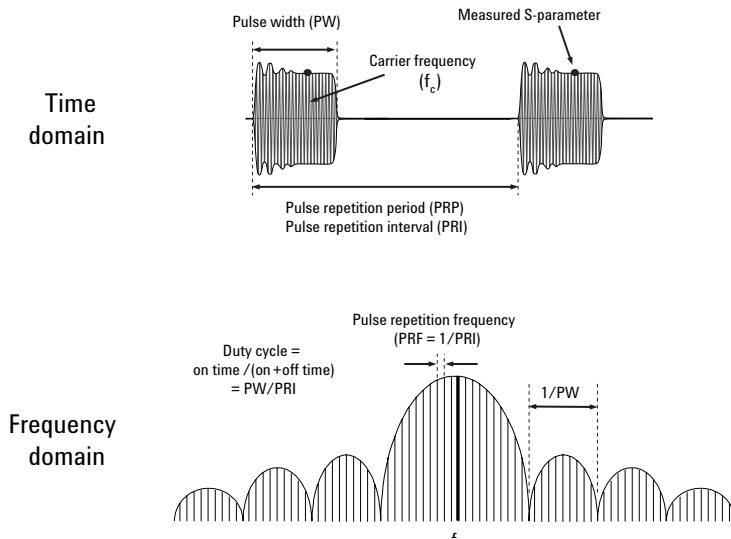

Figure 8. Pulsed-RF network-analysis terminology
This application note assumes the reader is already familiar with pulsed-RF measurements. The basic concepts of pulsed RF are reviewed in Figure 8. When a signal is switched on and off in the time domain (i.e., “pulsed”), the signal’s spectrum in the frequency domain has a $\text{sin}(x)/x$ response. The widths of the lobes are inversely related to the pulse width (PW). This means that as the pulses get shorter in duration, the spectral energy is spread across a wider bandwidth. The spacing between the various spectral components is equal to the pulse repetition frequency (PRF). If the PRF is 10 kHz, then the spacing of the spectral components is 10 kHz. In the time domain, the repetition of pulses is expressed as pulse repetition interval (PRI) or pulse repetition period (PRP), which are two terms for the same thing.